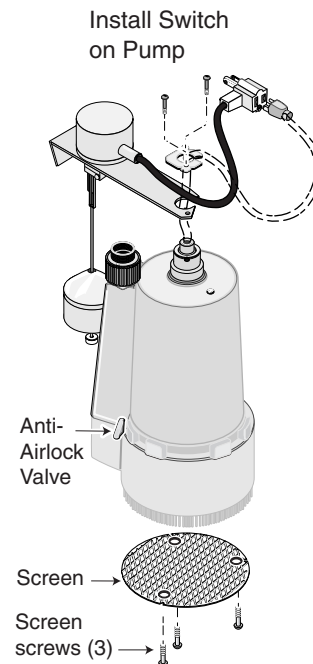

Figure 1 – To clean the Screen and Anti-airlock Valve and to attach Float Switch.
4. To clean the screen, remove the three screws holding the screen to the pump base (See Figure 1), remove and rinse off the screen.
This pump has a small hole in the side of the pump housing. See Figure 1. This is an anti-airlock valve. If you suspect an airlock, insert a hat pin or a pipe cleaner into the anti-airlock hole to clean out the debris.